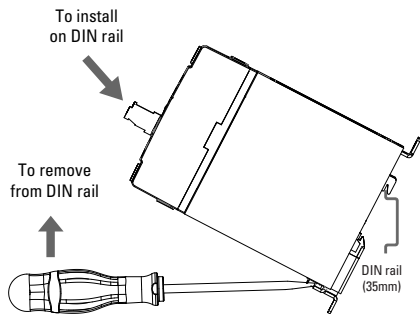

fig. 1 SSR mounted on DIN rail
- Using reasonable force, push DR45 in the direction of the arrow (as shown in **fig.1**).